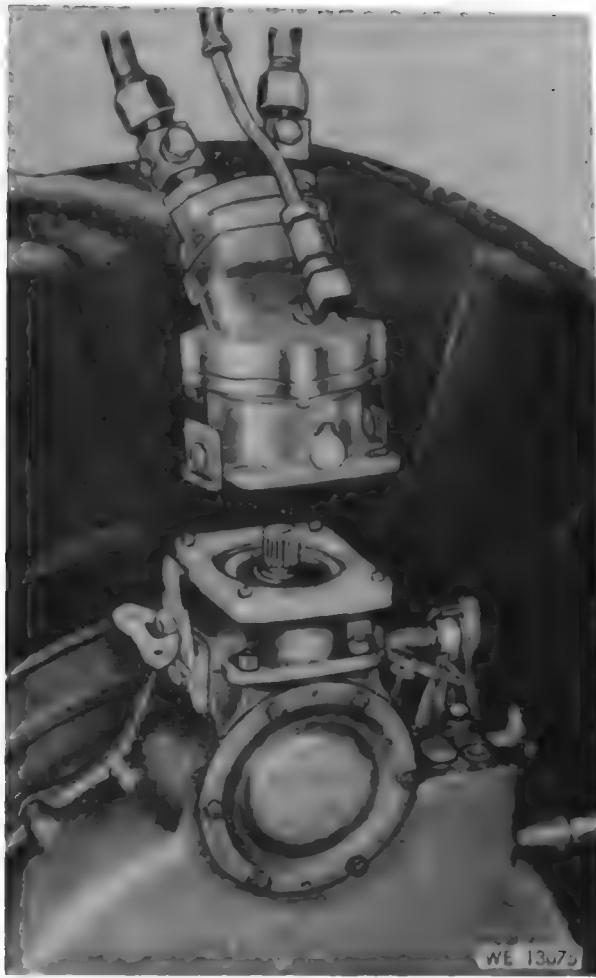

Figure 136. Hydraulic motor removed from wheel drive unit.
(1) Release the fastener lock securing the hydraulic motors to the wheel drive units and lift the motors from the units and lay them on the carriage tires (fig. 136).
(2) Place the hydraulic motor on the top of the wheel drive unit and secure with the fastener lock (fig. 136).
- (1) Spread the trails (para 39d(2)), set the carriage handbrakes, and raise the carriage on the firing jack (para 39d(9)) until the wheels are clear of the ground.
- (2) Release the lock fasteners securing the hydraulic motor to the wheel drive unit (fig. 136) (M123A1 only).